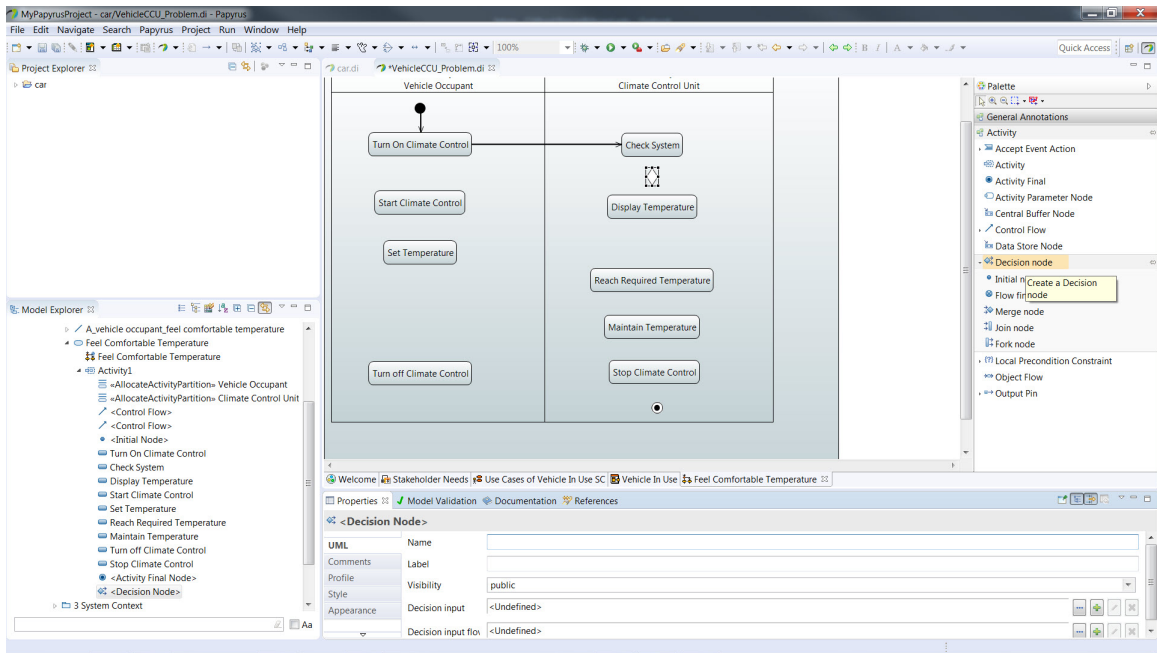

Figure 51: Control Flow
20. Now when we analyze the *Check System* action we come up with two possible cases. If the system is OK then we proceed to the next action which is *Display Temperature*, but if the system has some kind of error we want to proceed to the *Stop Climate Control* action. So, we need a decision node with a guard condition on the output of the *Display System* action. In the *Activity* palette on the right Click on the arrow next to **Initial node** to expand its contents and Click on **Decision node**. Now, in the activity diagram Click on the space between the *Check System* action and the *Display Temperature* action. A decision node will be created on the activity diagram (figure 51).